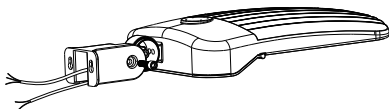

Figure 5
- Step 1: Remove the bracket mounting screws on the fixture and run the wires through the bracket. (Figure 5)